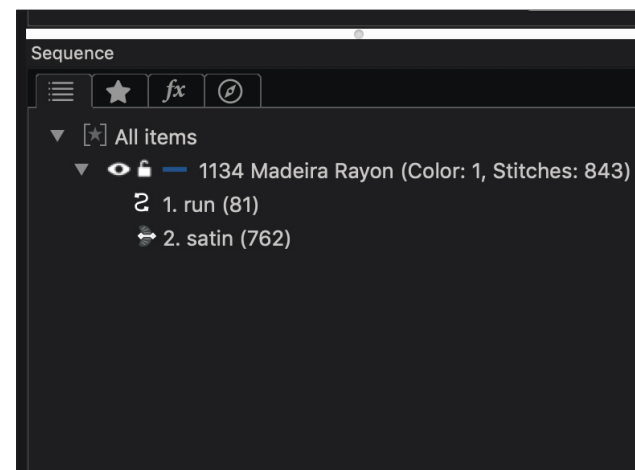

Figure 74
4. Right-click and convert your new shape into a Satin Stitch and click Apply. A run stitch needs to embroider before the satin stitch. You can confirm this by checking that the run stitch is above the satin stitch in your sequence pane. **See Figure 74.** You can also confirm by selecting your Slow redraw tool above.